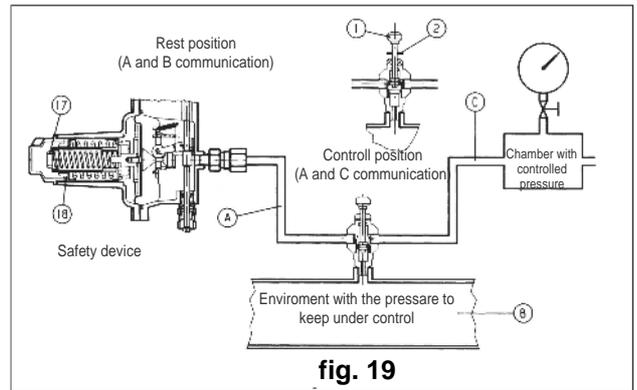

fig. 19
- A) For slam-shut connected to the downstream piping by a three-ways deviator "push" valve 11, (fig 19) proceed as follows:
- A)** For slam-shuts connected to the downstream piping by a three-ways deviator "push valve 11, proceed as follows (fig. 19):